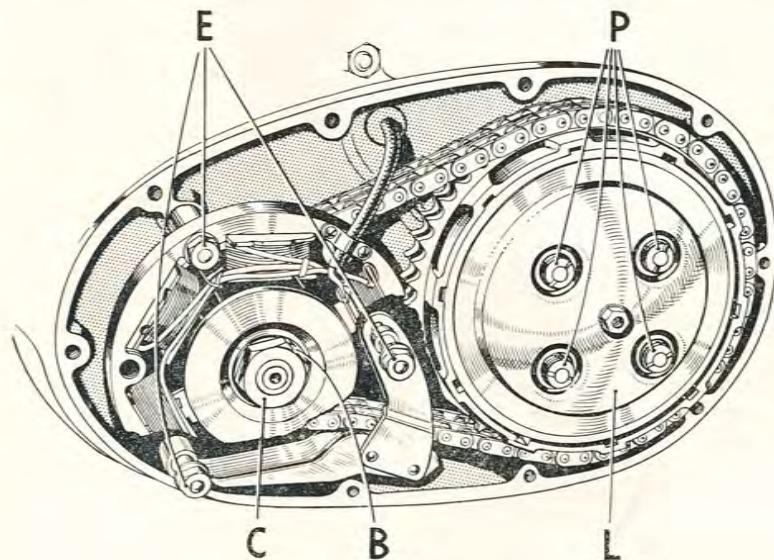

Fig. 13. Primary Chain Tensioner.
For adjustment of the chain, the cover must first be removed (see page 36). When the two lower generator retaining nuts (Fig. 13) are slackened, the position of the slipper can be altered to give the correct tension.
Remove the four spring retaining nuts (P) Fig. 13, and withdraw the springs and their cups. The pressure plate (L) and the remaining clutch plates can then be withdrawn, and if these are the only items requiring attention, the clutch need not be dismantled further. The steel plates should be smooth, and if badly scored, they should be replaced. The segments on the driving plates are bonded in position, and will not normally require replacing for a considerable mileage.
Whenever the clutch has been dismantled, the spring pressure must be re-set carefully. The four retaining nuts (P) Fig. 13, should be screwed in until the underside of the head of each nut is approximately $\frac{1}{8}$ -in. from the face of a spring cup. This figure is an arbitrary one and it is a simple matter to vary it according to circumstances. If the springs are compressed excessively, the handlebar lever will be stiff to operate and tiring to the hands; alternatively, if the spring pressure is insufficient, the clutch will tend to slip.